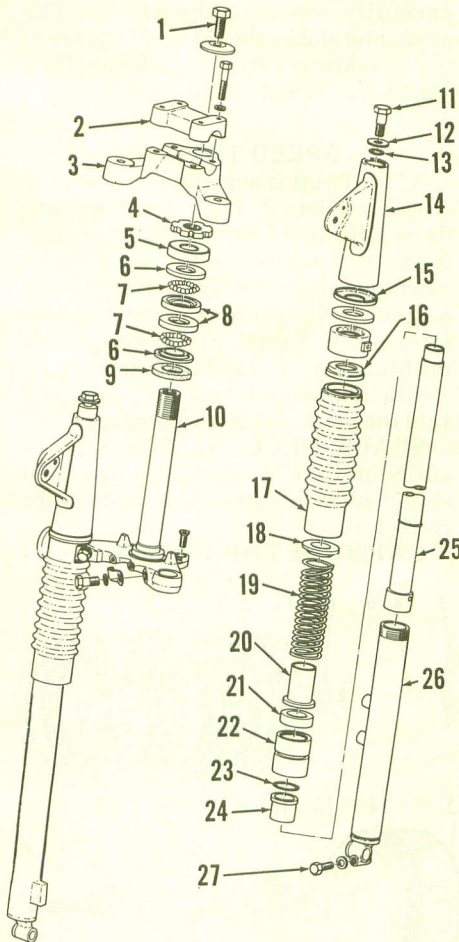

Fig. Y2-12—Exploded view of front fork assembly used on HS-1. Forks used on other models are similar.
**SUSPENSION.** The YL-1 front suspension unit contains 130cc of SAE 30 motor oil each. The units used on HS-1 and LS2 models contain 150cc of oil each. Oil in the front forks should be drained and filled with new oil every 4000 miles. Refer to Fig. Y2-12.